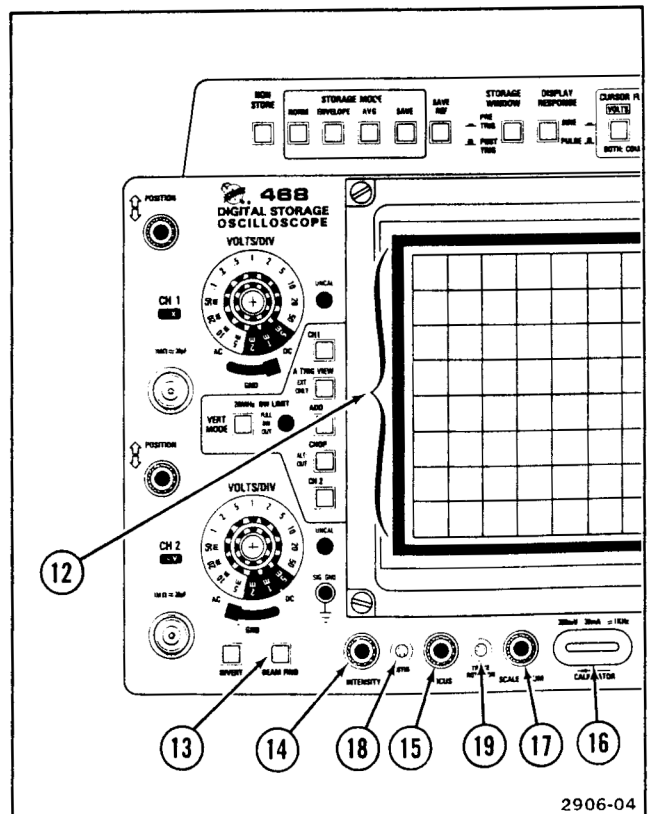

Figure 2-4. Display controls and CALIBRATOR.
Refer to Figure 2-4 for location of items 12 through 19.